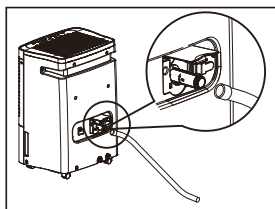

fig. 4
- c. Screw the garden hose onto the threaded portion of the drainage joint. (fig.4)
- d. Make sure the hose is secure so there are no leaks. (fig.4)